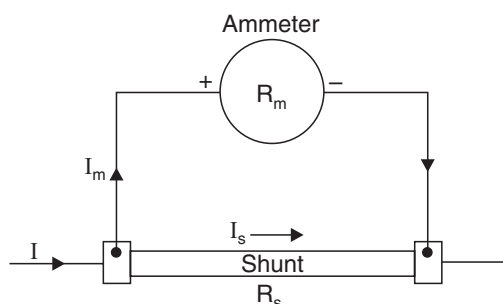

Fig. 13. Use of a shunt for measuring large currents.
1. Ammeter shunts. An ammeter shunt is merely a *low resistance* that is placed in parallel with the coil circuit of the instrument in order to *measure fairly large currents*. The greater part of the current in the main circuit is then diverted around the coil through the shunt. The connection diagram for a shunt and milliammeter for measuring large currents is shown in Fig. 13.